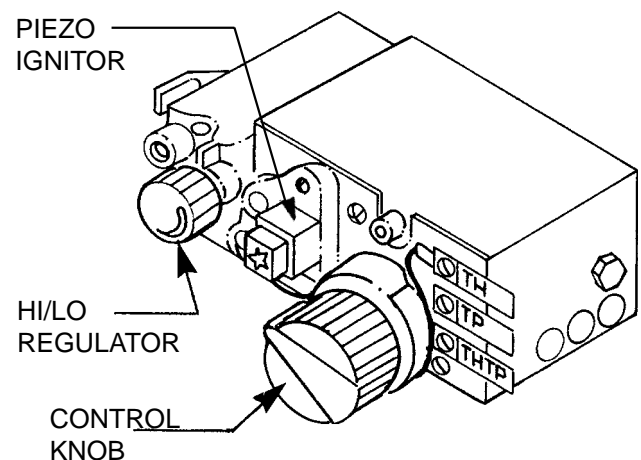

Figure 48
### 750 Millivolt System (Figures 48 and 49)
**NOTE:** The gas control valve allows you to increase or decrease the height of the main burner flame. The control valve has a pressure regulator with a knob as shown in Figure 48. Rotate the knob clockwise to "HI" to increase the flame height and counterclockwise to "LO" to decrease the flame height.